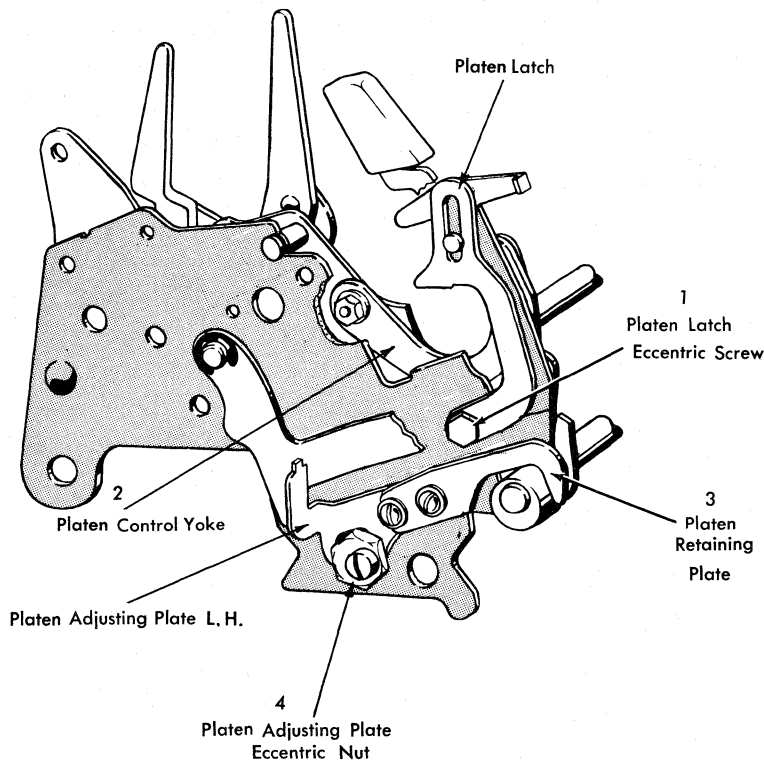

Figure 18. Carriage Adjustments
1. Adjust the platen latches by their eccentric screws so that the platen is held firmly in position. Keep the high point of the eccentrics toward the front of the machine (Figure 18).
2. The platen control yokes are mounted on the outside of both platen guide plates (Figure 18). Loosen both the front and rear locking nuts and position the yokes to eliminate any motion between the platen bushings and the platen guide plates. Do not adjust so tightly as to bind the platen, thereby hindering its insertion and removal.
3. Adjust the platen retaining plates to hold the eccentric collars located on the ends of the platen guide shaft tightly against the platen adjusting plates (Figure 18).